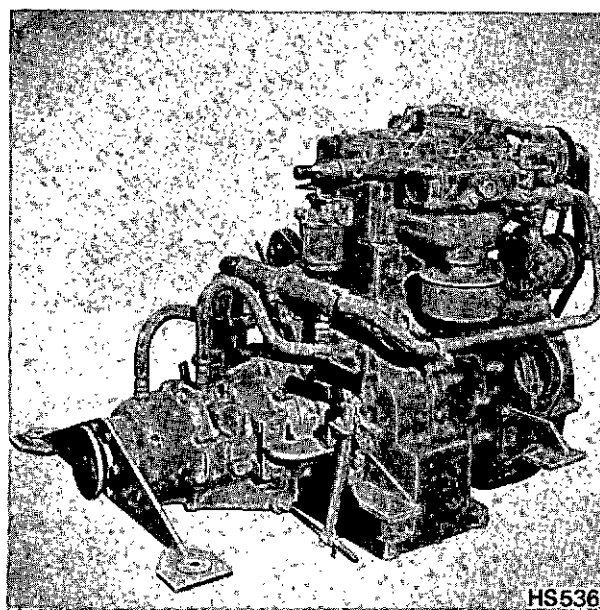

Fig. 148 Hydraulic Gearbox with Reduction Gear
**BORG WARNER REVERSE GEAR (Fig. 148)